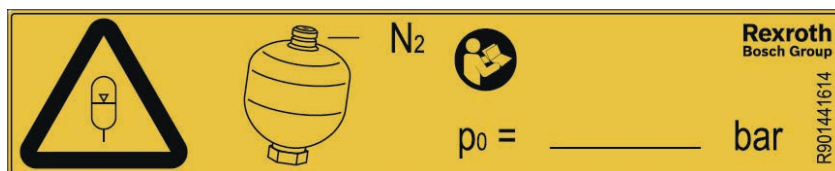

Fig. 9: Example of warning sign
- Bosch Rexroth recommends the use of a sticker, e.g. a warning sign for diaphragm type accumulators, material number R901441614, see Fig. 9.